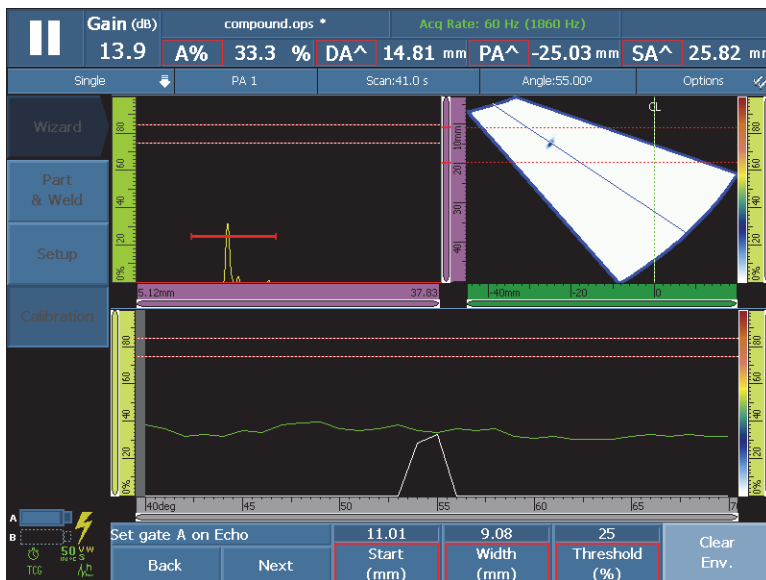

Figure 5-21 Set Gate A on Echo for a PA group
- a) In the **Start** and **Width** buttons, enter the start and width of gate A, ensuring that the signal from the first reflector signal crosses the gate in the middle, and that the gate is wide enough to contain the complete width of the signal (see the **A-Scan** view in Figure 5-21 on page 140).
- b) Set the **Threshold** value so that the signal crosses the gate on every aperture, as seen in the **Calibration: TCG** view of Figure 5-21 on page 140.